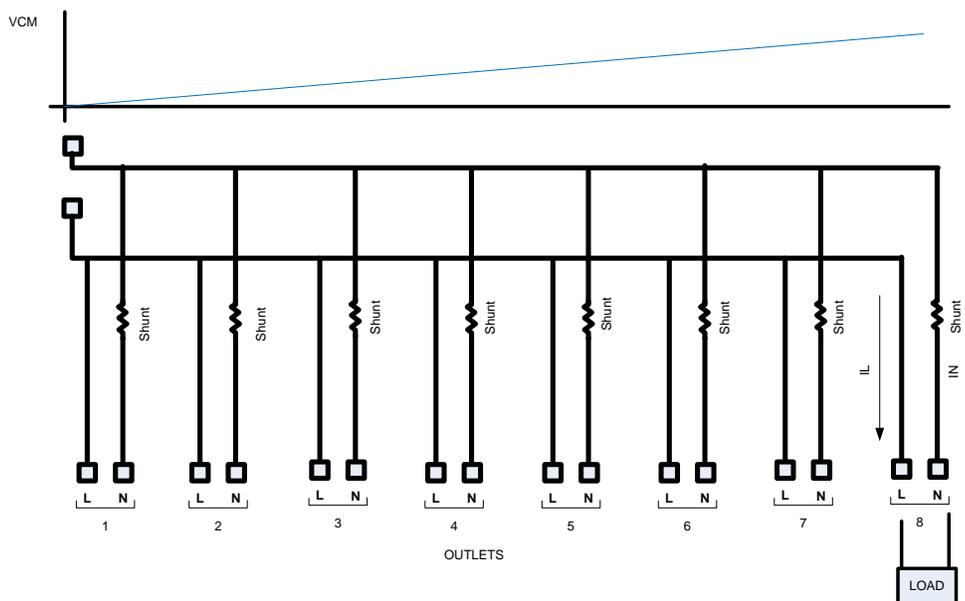

Figure 33: Single Current Channel with Differential Amplifier
**Minimize Trace Resistance:** The Line and Neutral traces carry high current, in the order of 20 Arms. The high current can cause copper traces self-heating and a high common mode (VCM) as shown in Figure 33.